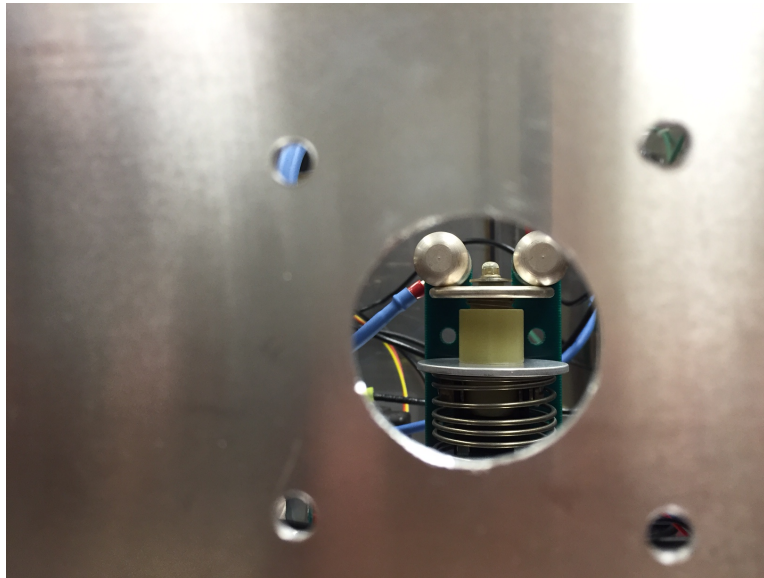

Figure 1: Discharge Relay in Closed Position
6.1.11 Looking through the capacitor box cover, **visually verify that RR1 is in its closed position** see Figure 1 below.
6.2.1 Looking through the capacitor box cover, visually verify that RR1 is in its closed position; see Figure 1 below.